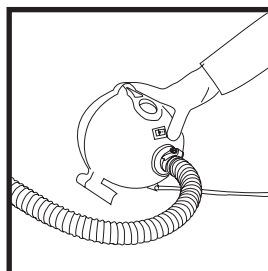

Fig. 17
18. Use the pump to inflate the pole until you feel it is completely taut (you will hear the sound of the pump changing) (Fig. 17).